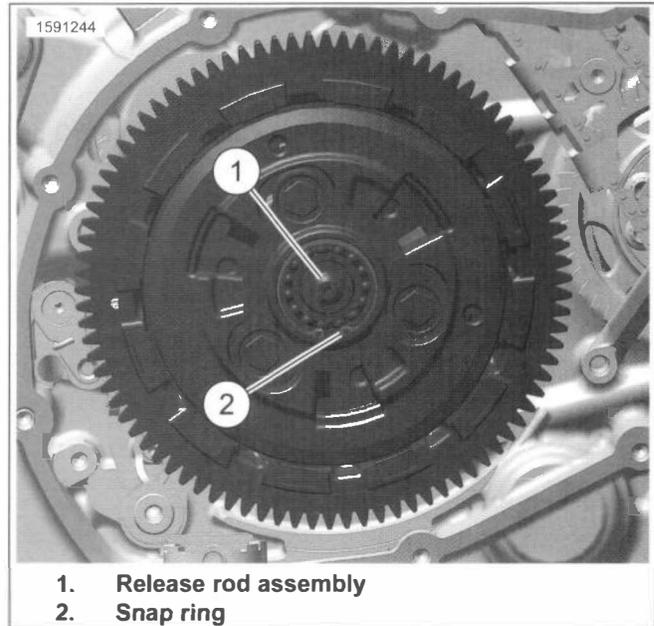
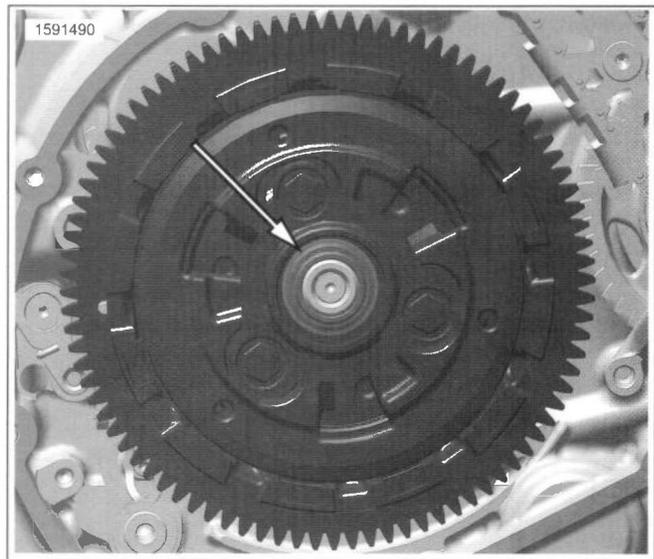

Figure 5-14. Release Rod Assembly
Figure 5-15. Clutch Nut
1. See Figure 5-14. Remove the snap ring (2).
2. Remove the release rod assembly (1).
3. See Figure 5-15. Using a 12 point 24mm socket, remove and discard nut.